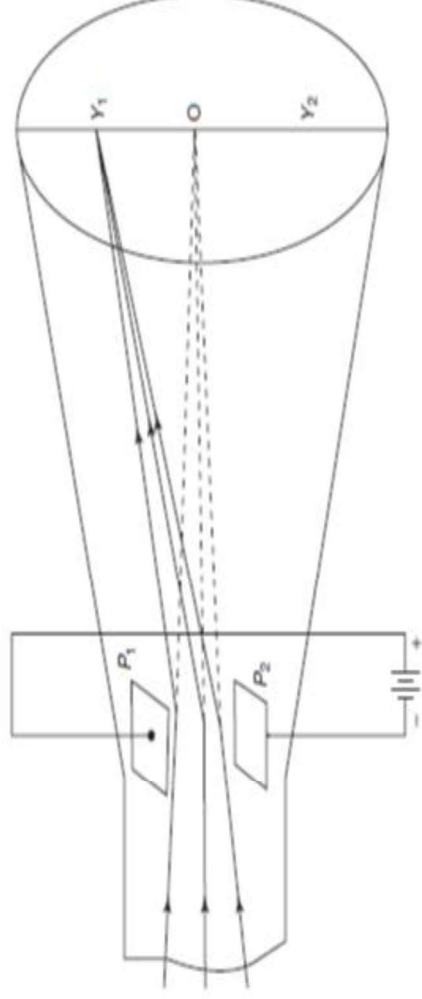

Figure 14-3(a) Deflecting system using parallel vertical plates
*The deflection is proportional to the deflecting voltage between the plates. If the polarity of the deflecting voltage is reversed, the spot appears at the point **Y2**, as shown in Fig. 14-3(a).*